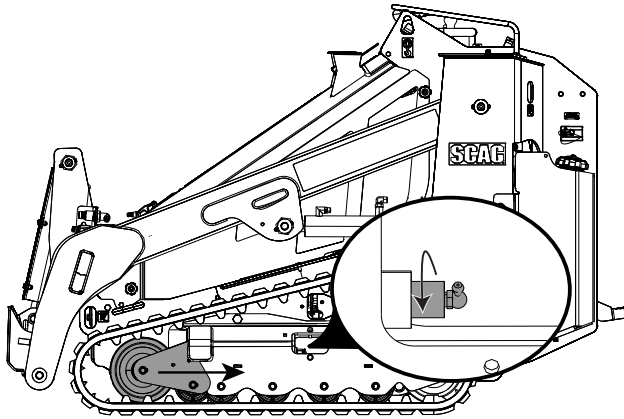

Figure 6-21. Track Tension Release
7. Loosen the cylinder tensioner until all the grease releases to release tension on the track. The tensioner will retract the front track idler allowing slack to remove the track. See Figure 6-21.